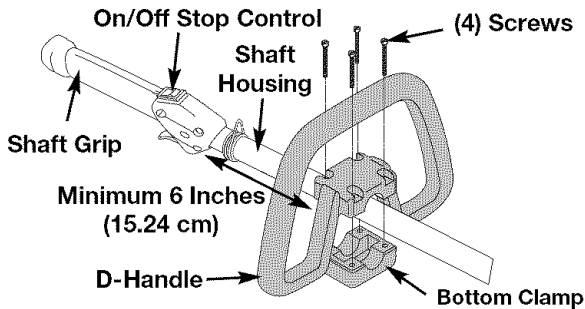

Fig. 1
- Place the D-handle down on to the shaft housing and the bottom clamp so that the handle slants towards the shaft grip (Fig. 1). Place handle and clamp a minimum of 6 inches from the end of the shaft grip.